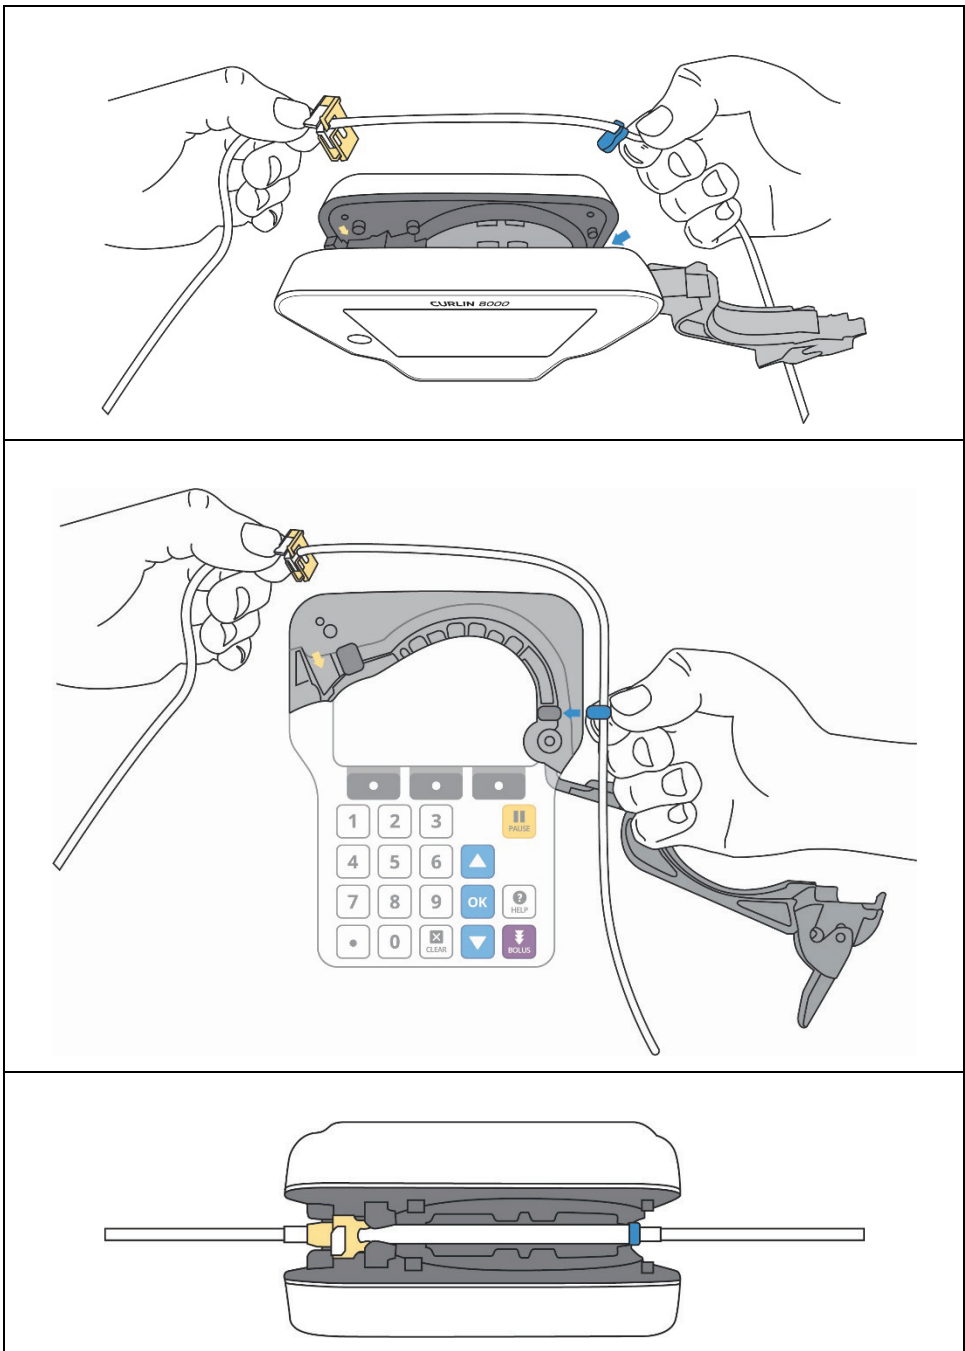

Figure 13: Inserting the Administration Set into the Pump
3. Insert the blue tubing guide pin into the hole under the right side of the pump indicated by the blue arrow inside the pump door. See Figure 13.
4. Without pressing down on top of the yellow flow-stop, insert the flow-stop into the square hole on the left side of the pump indicated by the yellow arrow inside the pump door. See Figure 13.